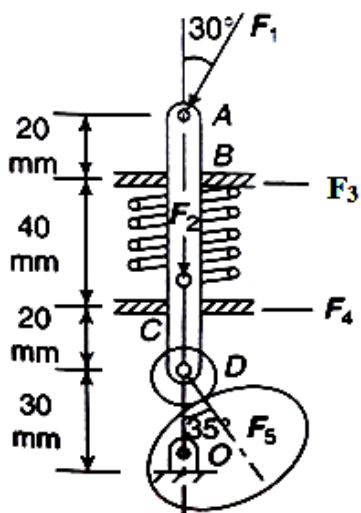

Fig.Q.5A
- 5A.** **Fig.Q.5A** shows a cam with a reciprocating–roller follower system. Various forces acting on the follower are indicated in the figure. At the instant, an external force  $F_1$  of 40 N, a spring force  $F_2$  of 15 N and cam force  $F_5$  of unknown magnitude act on it along the lines of action as shown.  $F_3$  and  $F_4$  are the bearing reactions. Determine the magnitude of the forces  $F_3$ ,  $F_4$  and  $F_5$  neglecting friction. **(05)**